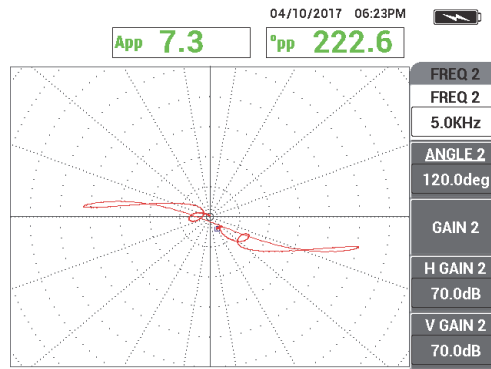

Figure 5-167 The frequency 2 scan signal of the support ring
5. When you obtain a satisfactory signal, press the FREEZE key () to enable signal acquisition (see Figure 5-167 on page 246).